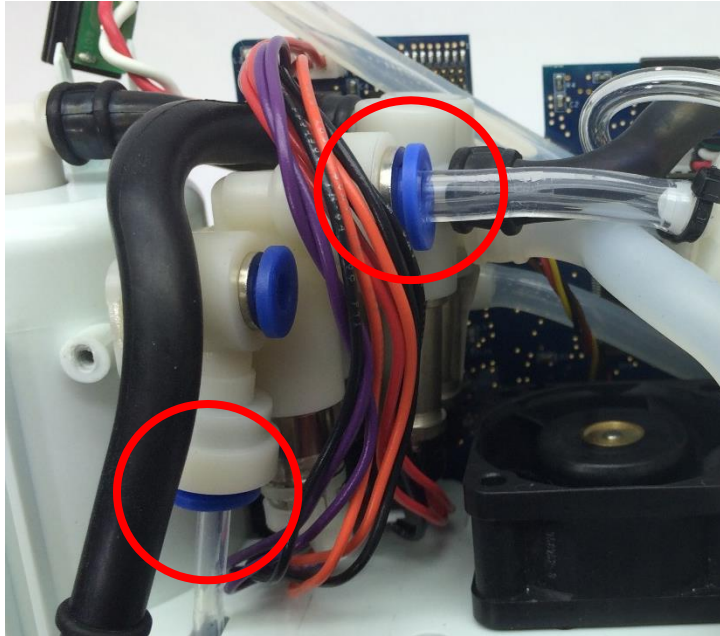

Figure 9: Column and Accumulator Tubing removal
4. Remove the Column A tube from the Product Manifold by pushing down on the retaining ring of the quick connect while pulling the tubing down (Figure 9). Then release the accumulator tubing from its quick connect in the same manner.